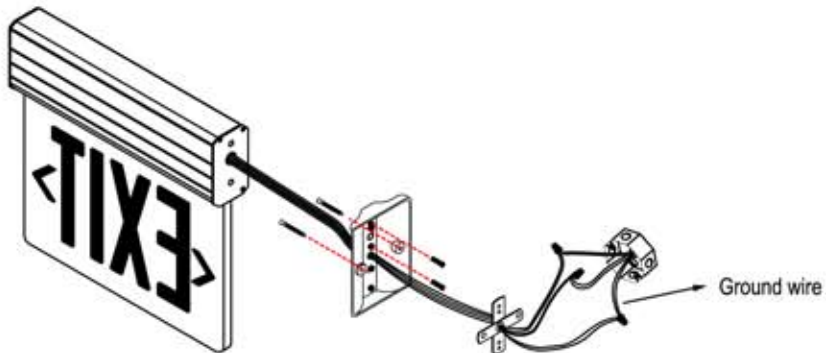

Fig. 6 Side Mounting
4. Assemble canopy with Aluminum housing. (see Fig. 6) Using holes "3" and "5", assemble canopy with (2) 10-24 screws and nuts.